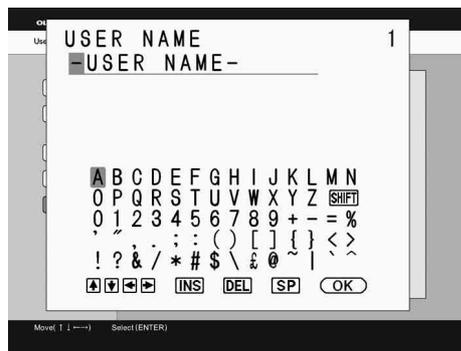

Figure 5.3
- 2 Press “▲” or “▼” to select the number for entering the user name from among “1,” “2” and “3,” and press the “ENTER” button. The entry screen appears (see Figure 5.3).